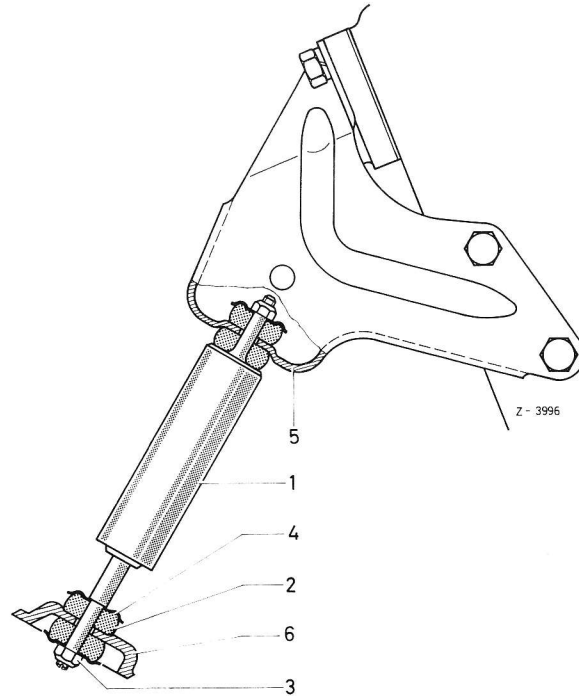

Fig. 3
2 Unscrew engine damper on upper holder (5) and lower carrier (6) (Fig. 3).